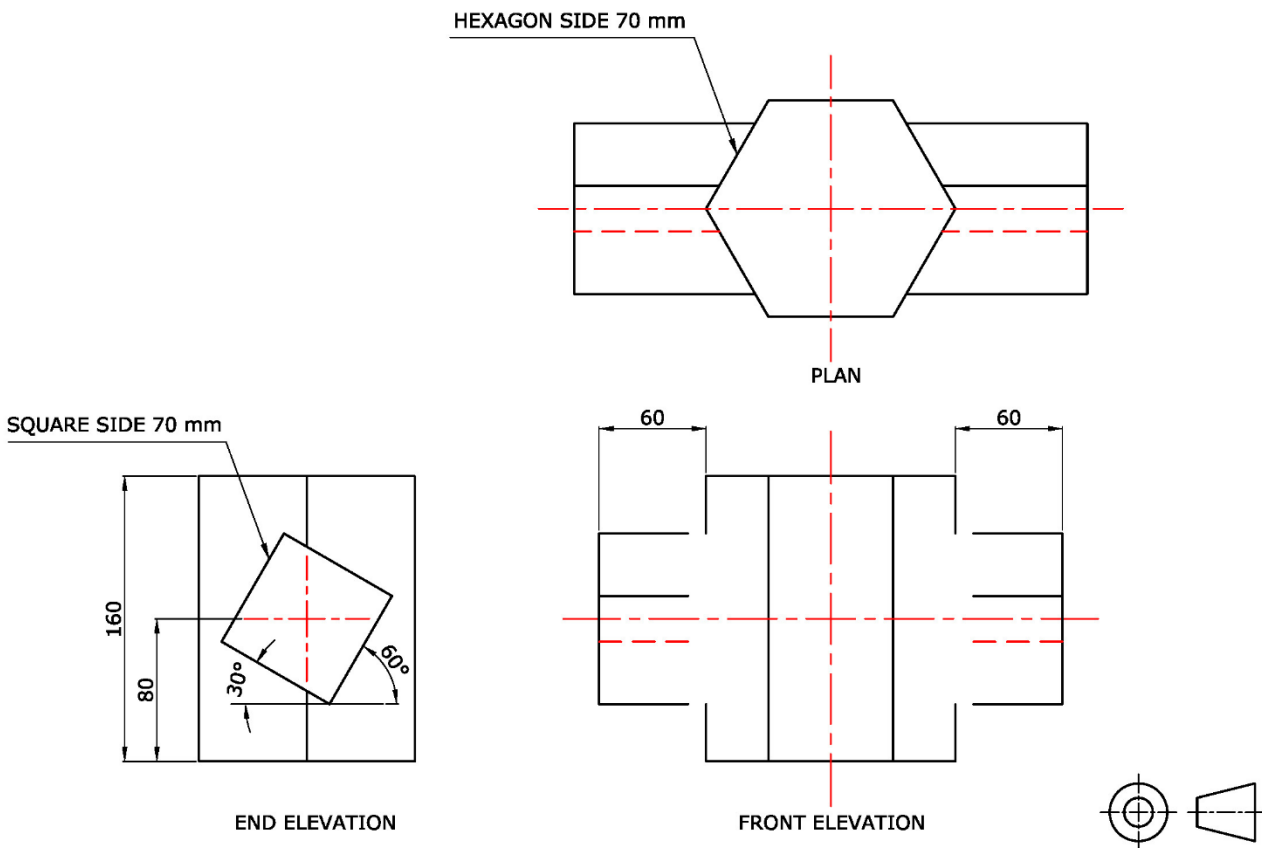

Figure 6b
- a) Copy full size the **THREE** views shown in Figure 6b. (3)
- b) Project, using neat light lines and in the right order, the various points to locate the lines of intersection between the square prism and the hexagonal prism on the front elevation. (6)
- c) Complete the front elevation showing clearly which lines are seen and which lines are hidden. (4)